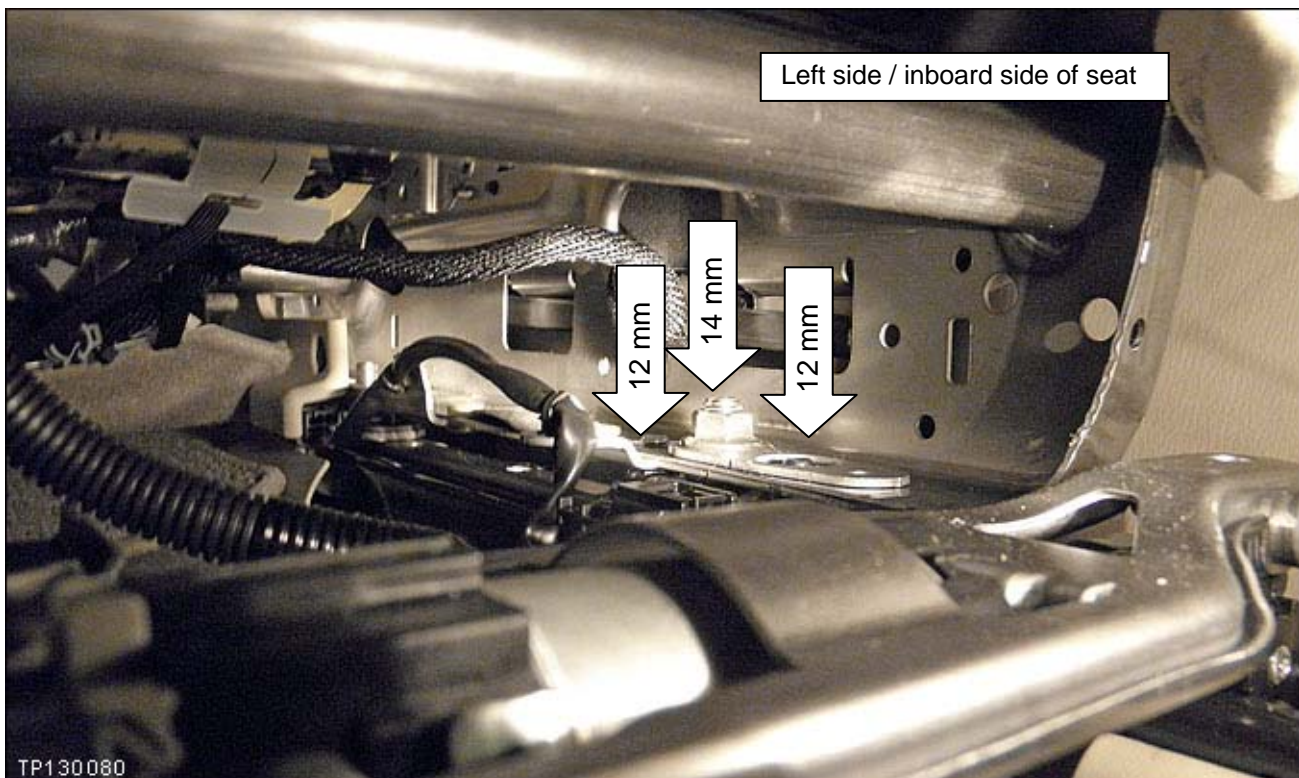

Figure 11
b. Locate and remove the 3 OCS sensor nuts shown in Figure 11.